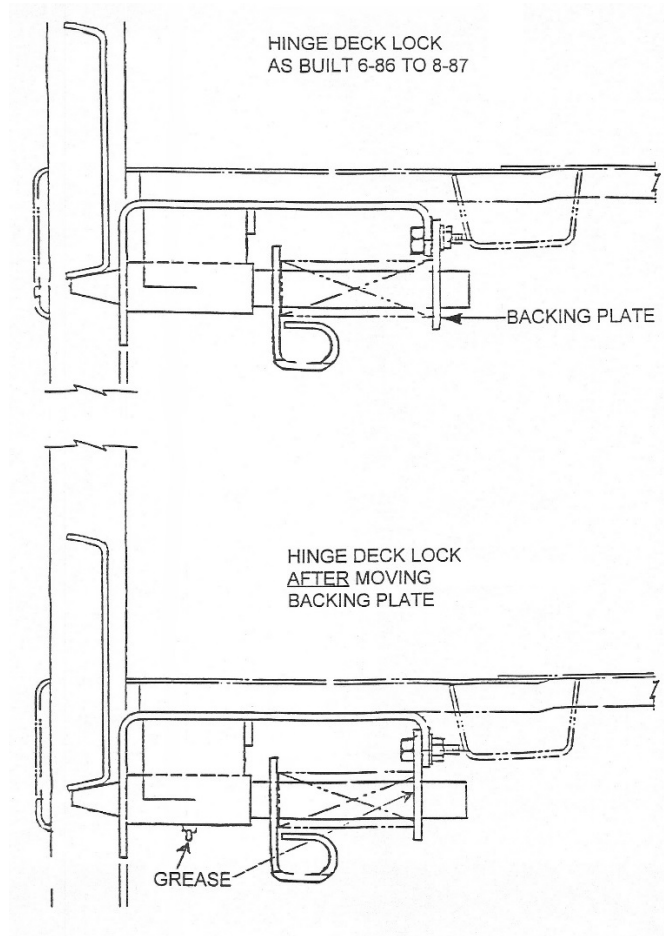

Figure 2. Hinge Deck Lock Modification
2. All Thrall Car Tri-Levels built since June of 1986 have the new style heavy duty deck lock pins. These pins have the tapered ends. The following lube procedure should be followed: (See Figure 2).
3. When certifying Tri-levels built by Thrall Car Winder from June 1986 to August 1987, the following additional hinge deck lock modification is recommended. (See Figure 2)
Safety first: Refer to drawing BSK-7076 shown in Figure 2.